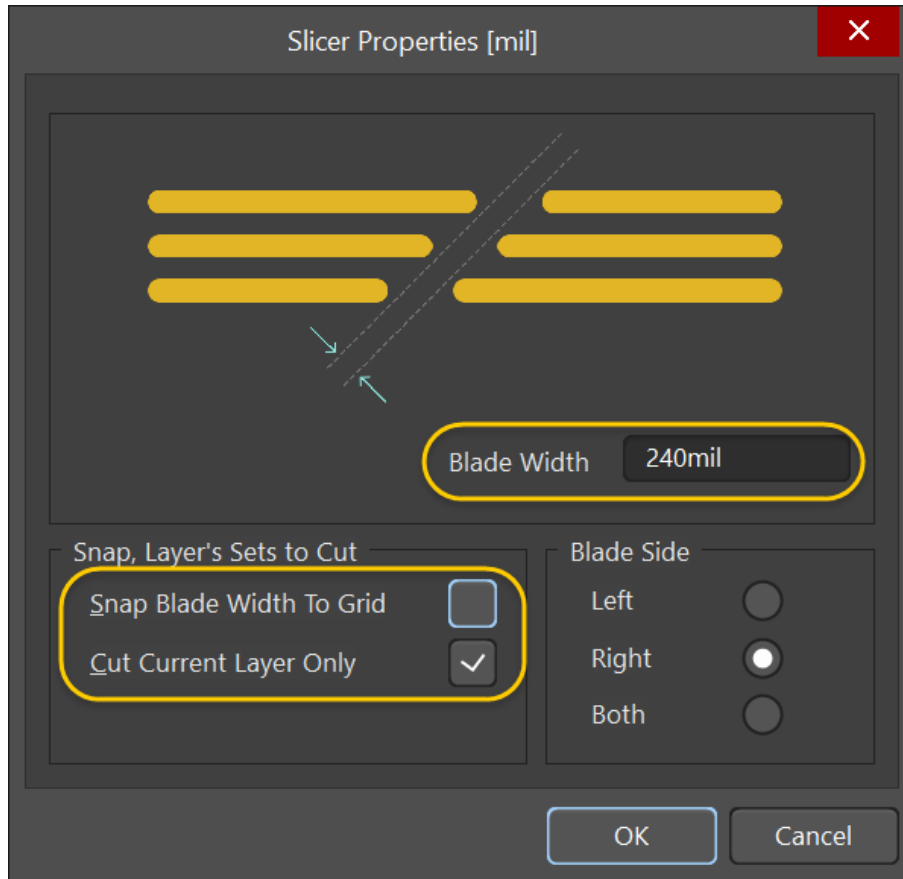

Figure 11. *Slicer Properties*
- e) Press the **TAB** key to bring up the *Slicer Properties* dialog, as shown in Figure 11.